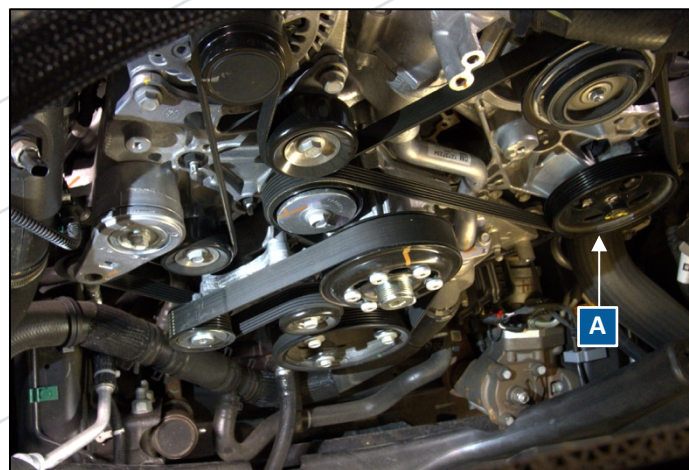

Figure 23: Accessory Drive Assembly
**36. Remove Power Steering Pump (Labeled as A in Figure 23).**